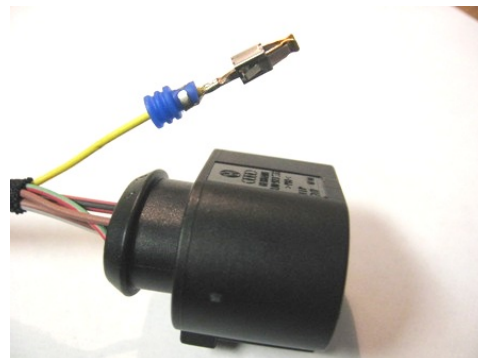

Figure 3. Contact, shown removed from connector.
- c. Remove contact from connector using VAS 1978/4A tool (Figure 3).